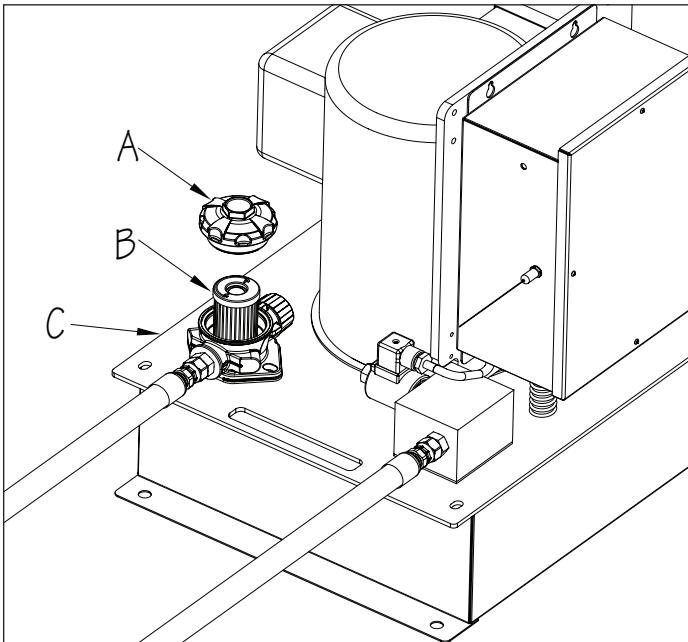

Fig. 29
Remove the Fill Cap (A) and then remove the Oil Filter (B) by lifting it out of the fill opening (Fig. 29). Fill the reservoir to within 2" (5cm) of the Reservoir Lid (C). Once filled, replace the Oil Filter and ensure that it is seated properly before reinstalling the Fill Cap. Additional fluid has been provided if long run hoses were ordered and will be added to the reservoir during the initial start up.